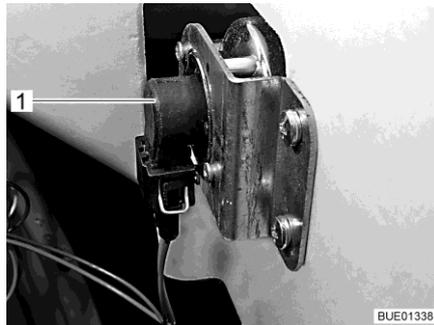

Fig. 288 Direction indicator
- Put your hand behind the lamp holder (Fig. 288,1).